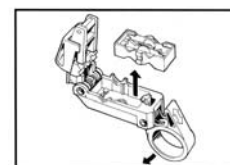

Figure 18
- B.** Remove the cassette from the tool by moving the locking latch in the direction of the arrow (Fig 18). Then push the cassette out of the tool by inserting wrench, or appropriate object, through hole in bottom of the tool. Turn blade adjustment set screws counterclockwise until they are fully retracted.